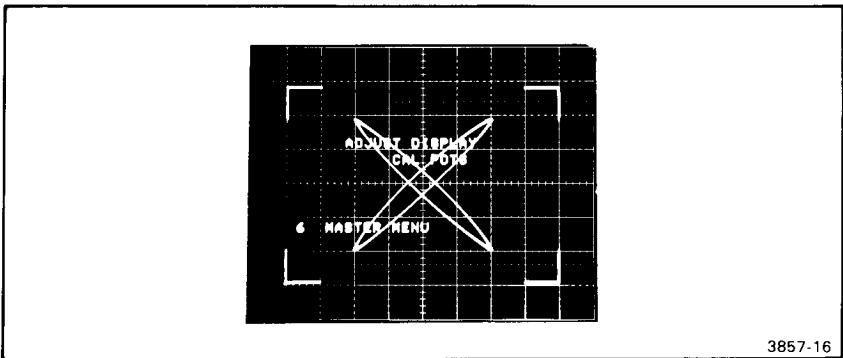

Figure 2-8. Adjust HORIZ GAIN.
Step 3 Adjust the HORIZ GAIN (horizontal gain) control to bring the right edge of the DISPLAY CAL PATTERN into alignment with vertical graticule line 9 of the display as shown in Figure 2-8. These adjustments are interactive and you may need to work back and forth between them to optimize pattern and graticule alignment.